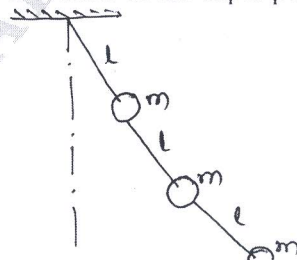

Fig.Q9(a)
- 9 a. Determine the influence coefficients of the triple pendulum shown in Fig.Q9(a).